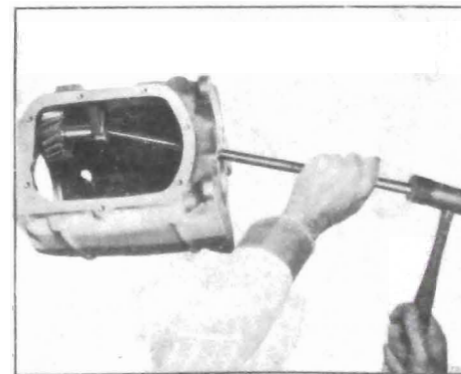

Figure 72-9 - Removing Reverse Idler Shaft
12. Use a long brass drift and drive reverse idler shaft and woodruff key through rear of case. See Figure 72-9.